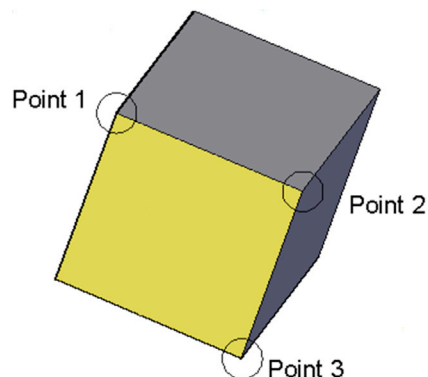

FIGURE 25.11 Selecting points, Step 3.
Step 3. Here, you need to click on and choose three consecutive source points on Block 2's face that you want used as points of attachment to Block 1. Several combinations are possible, so let us arbitrarily choose the points shown in Fig. 25.11. As you select these three points,